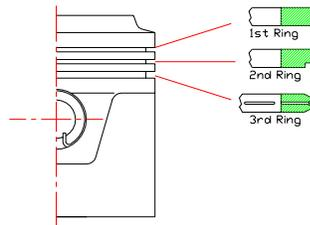

Fig. 9
- g) Three rings are fitted to each piston (Fig. 9):
- u) Fit the rings in reverse order commencing with the 3rd ring and ensuring that each ring is fitted in the correct manner (Fig. 9).